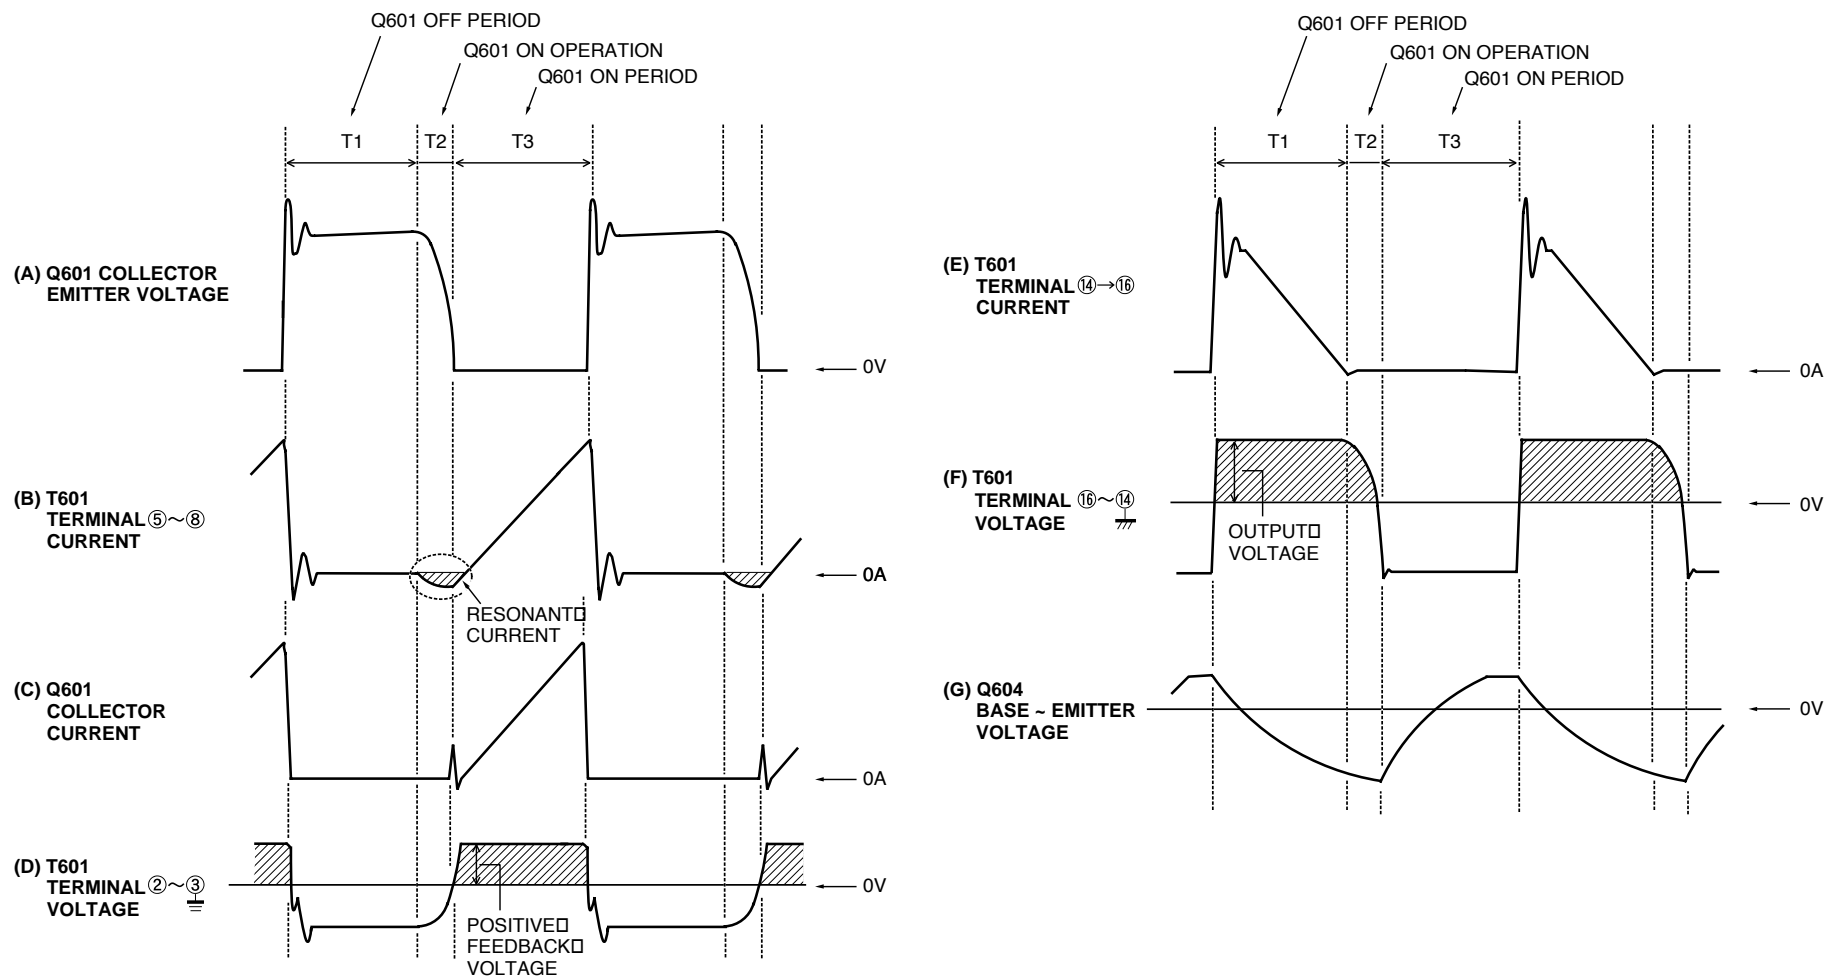

Figure 2. Waveforms in Power Supply Circuits
When Q601 is Off, the energy stored in the input coil 5-8 during its On Operation will be supplied to the load side from the output coils through the rectified output circuit. An output voltage determined by the turn ratio of output coils will be produced from this energy. The current produced from the output coils will decrease in inverse proportion to time. (See T1 period in Figure 2(E).)
(III) On Operation (T2 Period in Figure 2)
The current produced from the output coils decreases in inverse proportion to time and when it reaches 0, T1 period finishes and T2 period begins. At this time, the distributed capacitance of converter transformer T601 is equivalently input in parallel with the inductance of input coil 5-8 in the converter transformer T601, and a resonance will occur. The resonance current will travel from the terminals 8 to 5 of the input coil. Therefore, because a current is trying to be produced from the feedback coil terminals 2 to 3, Q601 will remain Off. The resonant current will be largest at the end of T2 period and the current coefficient will become 0. (See T2 Period in Figure 2-(B).) After this, the current coefficient will reverse the polarity. Therefore, a current will be produced in the feedback coil terminals 3 to 2 and the current (terminal 2 → C612 → R614 → R613/R618 → Q601 base/emitter → terminal 3) will flow causing Q601 to go On. Even if this current is very small, due to the operation of positive feedback in the feedback coil, Q601 will momentarily go On.
(IV) On Period (T3 Period in Figure 2)
When Q601 is On, the positive feedback voltage is charged into C613. To discharge the voltage, a discharge path (D614, R617) is provided. When Q601 is Off, the negative feedback voltage is produced from the feedback coil 3 to 2 and the voltage charged in C613 will be discharged, going through terminal 3, C613/R619, D614, R617 and terminal 2. (See T1 period in Figure 2-(G).)